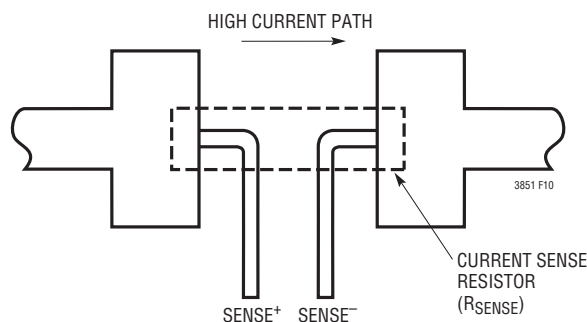

Figure 10. Kelvin Sensing R_{SENSE}
3. Are the SENSE⁻ and SENSE⁺ leads routed together with minimum PC trace spacing? The filter capacitor between SENSE⁺ and SENSE⁻ should be as close as possible to the LTC3851. Ensure accurate current sensing with Kelvin connections as shown in Figure 10. Series resistance can be added to the SENSE lines to increase noise rejection and to compensate for the ESL of R_{SENSE} .